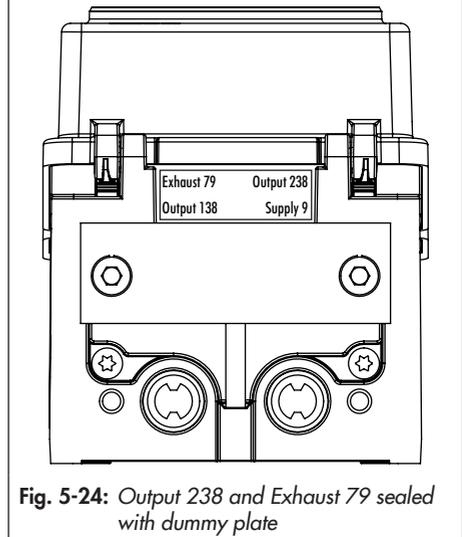

Fig. 5-24: Output 238 and Exhaust 79 sealed with dummy plate
- ➔ Seal Output 238 and Exhaust 79 with a dummy plate (see Fig. 5-24) if only one pneumatic output is available.
The signal at output 138 is used to control a single-acting pneumatic actuator. The outputs 238 and 79 are sealed (see Fig. 5-24). The air capacity can be doubled by using two pneumatic modules.